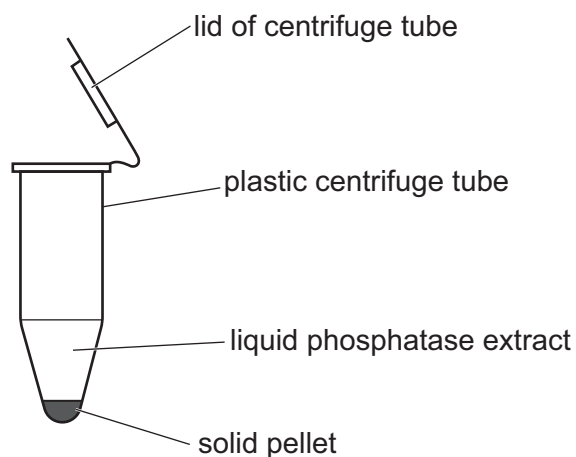

Fig. 1.2
- Centrifuge the filtrate until a solid pellet is formed, as shown in Fig. 1.2.